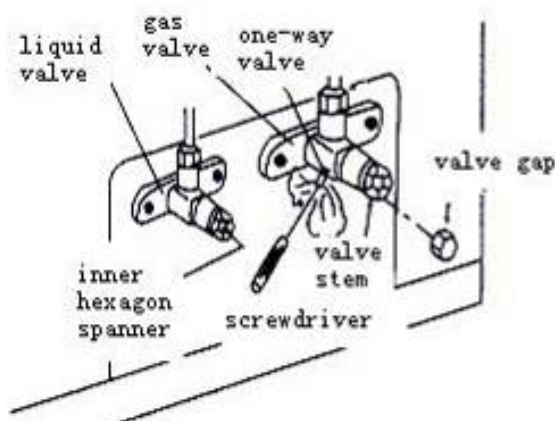

Figure 3-1-4
- ◆ Totally open the spool of refrigerant valve and air valve (as shown in Figure 3-1-4)